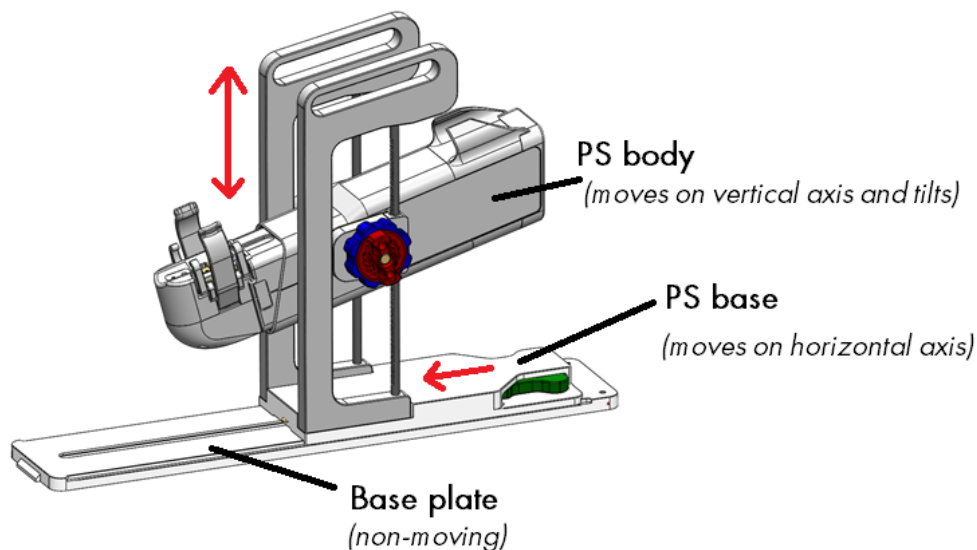

Figure 22: Adjusting the Positioning System
3. **MRI Technologist:** Manually move the PS into position so that the UA gripper aligns with the natural angle of the UA in the patient. Manually adjust the base of the PS forward and backward and up and down, and tilt the linear axis of the PS up and down (*Figure 22*).
NOTE: The PS adjustment knobs and levers are not coloured as in *Figure 22*, but are coloured here to help with these instructions.